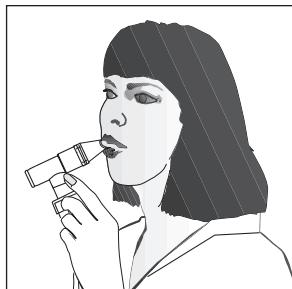

Figure 7
10. Begin treatment by placing the mouthpiece between teeth. With mouth closed, inhale deeply and slowly through mouth as aerosol begins to flow, then exhale slowly through the mouthpiece (Fig. 7). If treatment needs to be interrupted, simply press power switch "Off."